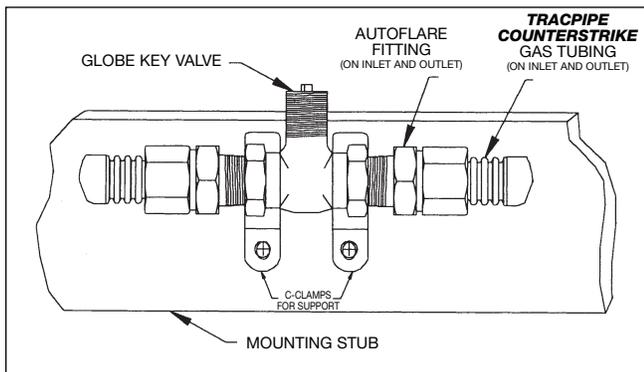

Figure: 4-2
- Flexible piping connections to fireplace “key valves” can be located in a concealed location, when accessibility is not readily provided. See Figures:4-2 and 4-3 for typical key valve mountings.